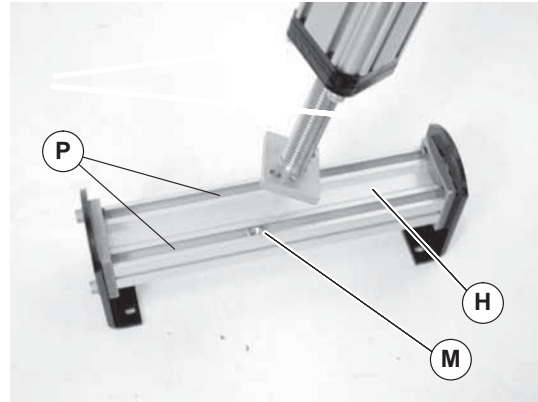

Figure 14
- Position the conveyor mounting bracket and crossmember tube assembly (Figure 14, item H) so there is access to the underside t-slots (P) and hex nuts (M).
- To center the conveyor mounting bracket (Figure 14, item H), position the “Attach Here” sticker (Figure 16, item T) with the end plate (S) of the stand top screw assembly.